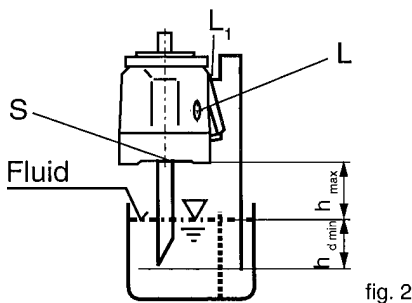

fig. 2
- b) If the minimum fluid level is below the pump mounting surface pipe port "L1", and possibly "S" according to Fig. 2. Close port "L" with respect to conditions in 1.2.1.
Before installing the pump, fill the pump with housing in the horizontal position. For mounting above a tank see fig. 2.